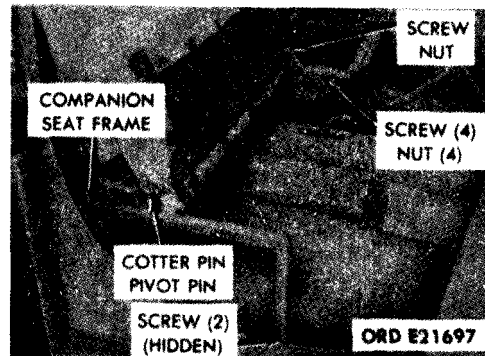

Figure 2-219.6. Companion seat removal.
a. *Removal (fig. 2-219.6).* Lift up the companion seat cushion. Remove the two screws securing the companion seat frame legs to the floor, remove the four safety nuts and screws securing the seat frame to the driver's seat base, and remove the seat.
b. *Installation (fig. 2-219.6).* Place the companion seat on the floor. Secure the seat frame to the driver's seat base with four hex-head screws and safety nuts. Secure the seat frame legs to the floor with two hex-head split lockwasher screws.
a. *Removal (fig. 2-219.6).* Remove the two cotter pins and the pivot pins of the two safety nuts and screws holding the seat cushion hinges to the seat frame. Lift up the seat cushion. Remove the safety nut and screw holding the cushion to the seat cushion link, and remove the seat cushion. Pull up and pull out the bottom rear edge of the backrest cushion, and pull the cushion from the backrest frame.
b. *Installation (fig. 2-219.6).* Seat the top rear edge of the backrest cushion under hooks on the top edge of the backrest frame. While pulling up on the cushion, press the cushion back to seat the lower edge in the frame. Install the two pivot and cotter pins or two hex-head screws and safety nuts through the seat and frame hinge to secure the seat. Lift up the seat and secure the cushion to the seat cushion link with a hex-head screw and safety nut.
*(1) Removal.*